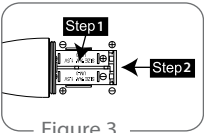

Figure 3
3. Insert 2 pieces of UM-3 1.5 V batteries, remember to match correct polarity. (step1 of Figure3)
4. Directly push the battery tray back. (step2 of Figure3)